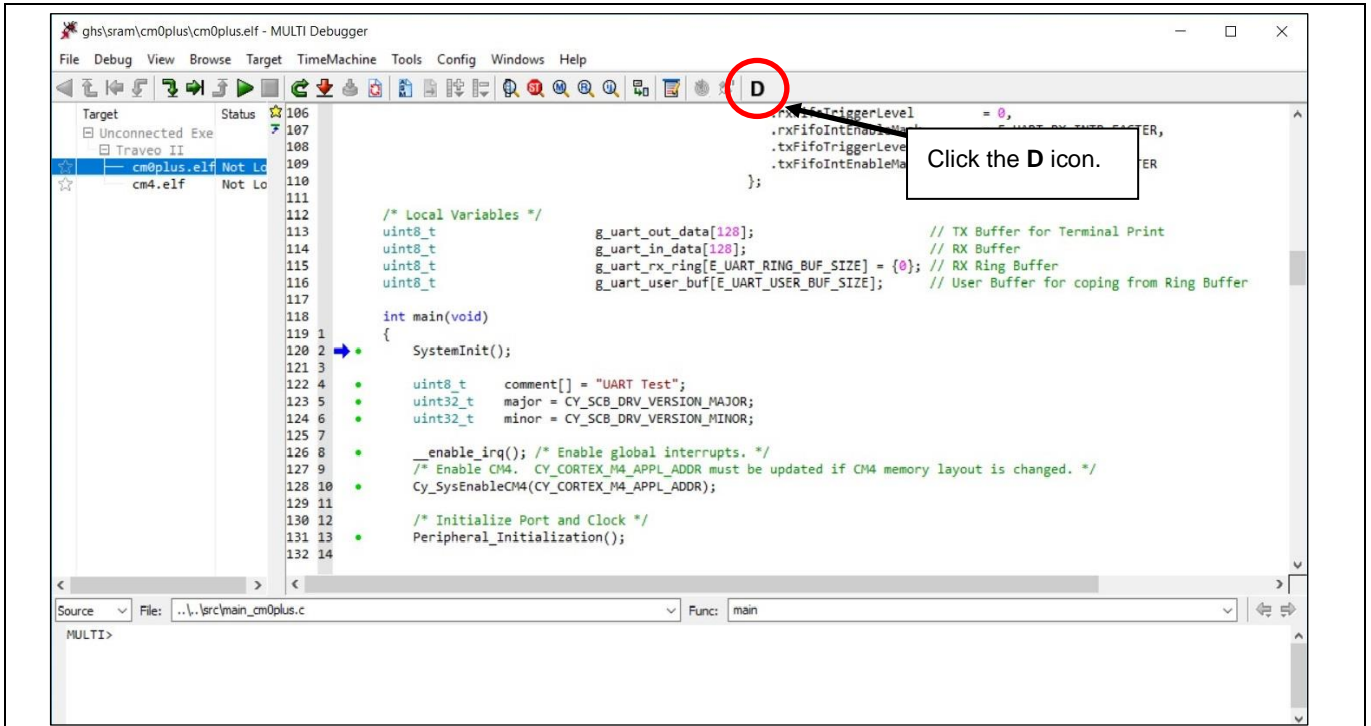

Figure 11 Debug the Project of SDL Project
- To enable the SDL project to detect the debugger script, click the **D** icon as shown in **Figure 11**.